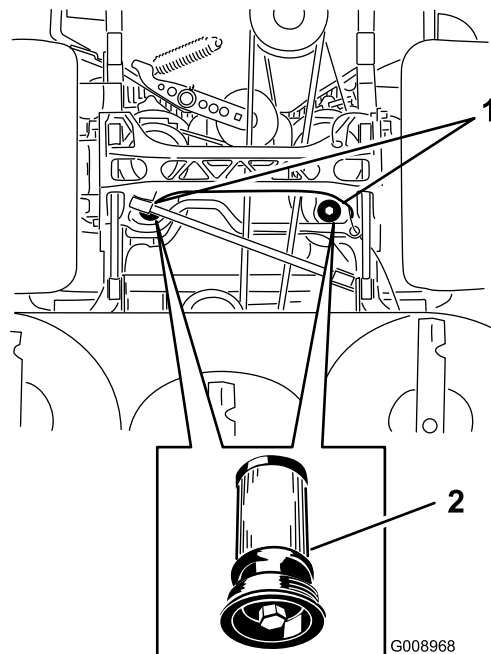

Figure 94
5. Place a drain pan under the filter, remove the old filter, and wipe the surface clean (Figure 94).
6. Apply a thin coat of hydraulic fluid to the rubber gasket on the replacement filter (Figure 94).